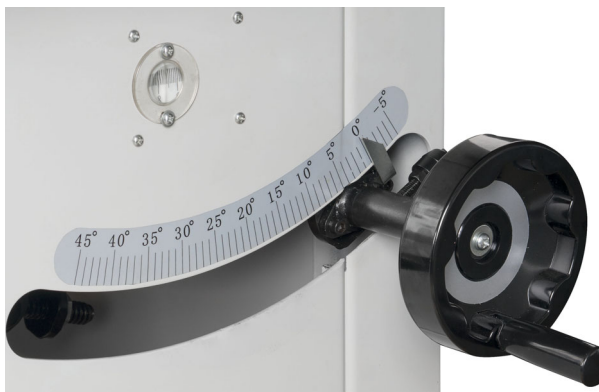

Fig. 31: Scale for adjusting the inclination
Step 3: Loosen the M12x40 hexagon socket bolt (item a, Fig. 31) and slacken the belt tension using the lever (b).
Make sure that the cutter does not come into contact with the cover or fence. The scale (Fig. 31) above the height adjustment handwheel indicates the inclination of the cutter.